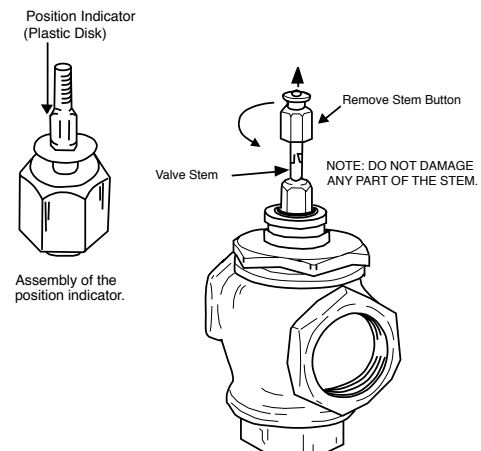

FIG. 3 — PREPARATION FOR VALVE ASSEMBLY
3. Remove the stem button (Fig. 3) from the valve stem.
4. (Optional) Slide the position indicator (plastic disk or rubber O-ring) over the valve stem (Fig. 3). Indicator will self-align to the marking on the yoke after complete operating cycle.